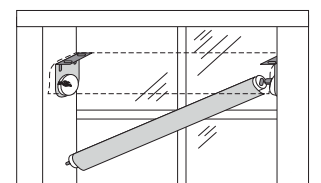

Fig. 6
- First insert the Clutch Plug into the Crank Unit (fig. 6).